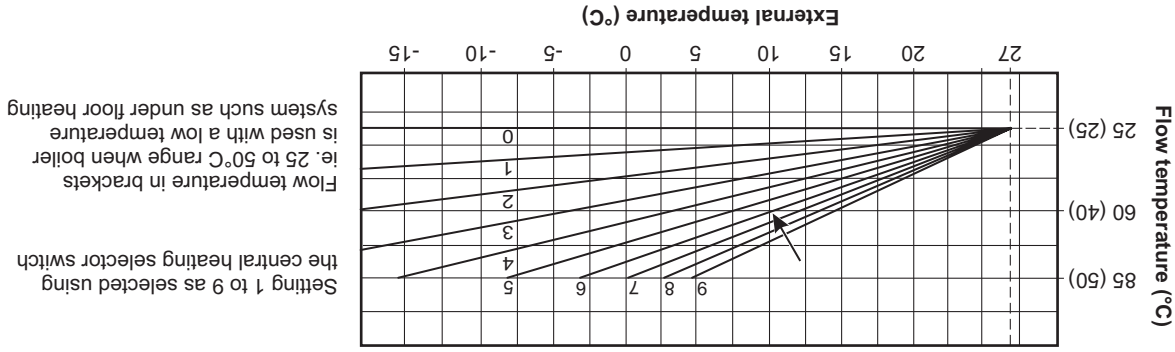

Fig. 2 - External weather compensation probe fitted
When an external weather sensor is fitted, the central heating temperature control buttons (items 6 and 7 in Fig. 1) will no longer adjust the flow temperature in °C, instead the display will show a scale of 1 to 9. Each number corresponds to a line on the graph in Fig 2 i.e. line 6 will give a flow temperature of 60°C when the external temperature is 10°C.